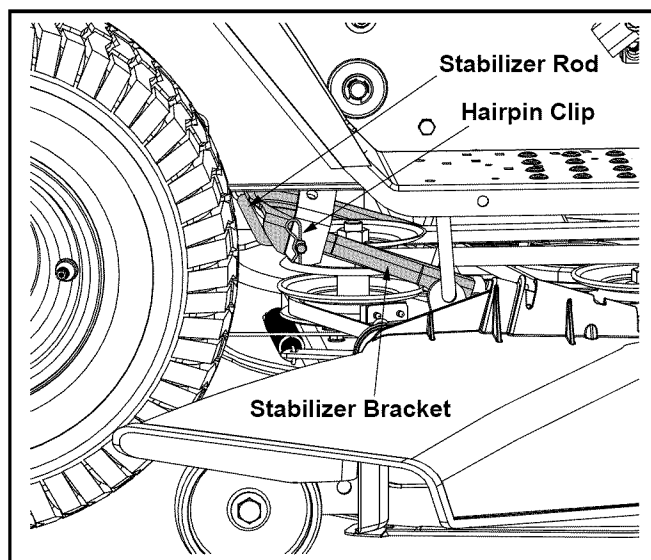

Figure 32
**NOTE:** To change the upper belt on 46-inch decks, you must also remove both the deck stabilizer bracket and the stabilizer rod. To do so, remove the hairpin clip which secures the stabilizer rod to the stabilizer bracket. See Figure 32.